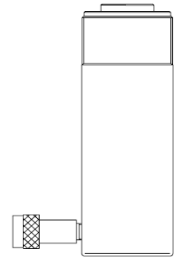

Figure 1.
2. Please use a pump with a release valve or a 3-way valve and one hose to connect with Single Acting Cylinder (Figure 1). After connected all parts, please fully hand-tighten all couplers. If not, oil will be leaked between the pump and cylinder.